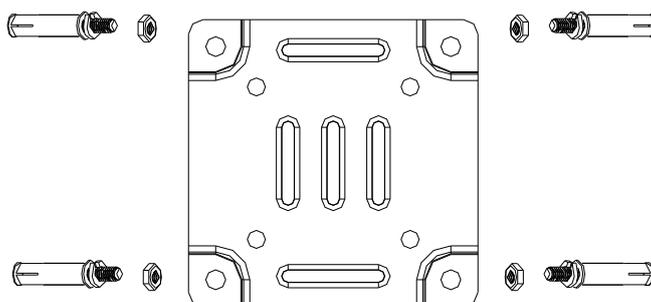

Figure 3-81 Attach the Installation Plate
3. Fix the installation plate and insert M10 \times 80 expansion screws into the screw holes, as shown in Figure 3-81.